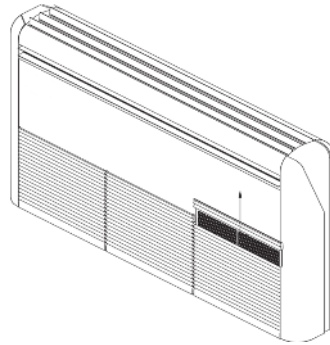

Figure 21
- (1) Water pipe connections are located behind the lower right-hand side of the return grille. See figure 21 and 22
- (4) The condensate drain is located behind the lower right-hand side of the return grille. See figure 21
- (5) The drain line has a $\frac{3}{4}$ " soft vinyl pipe for drain connection with a mechanical fitting. Follow prevailing codes for condensate drain installation.
- (6) Ensure the condensate line is insulated properly to safeguard against sweating and leaking into the unit or the surrounding structure.